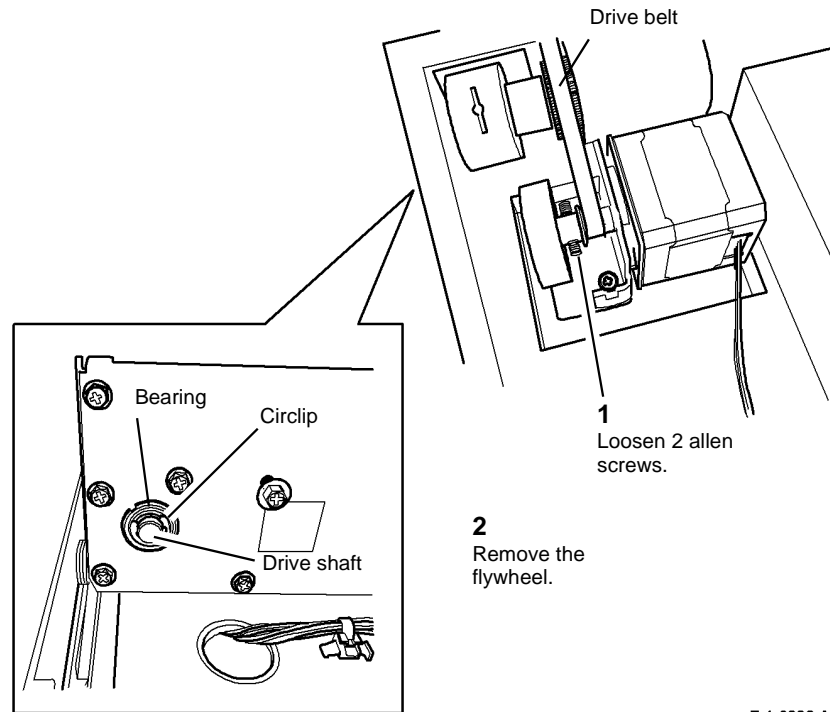

Figure 1 Flywheel removal and component location
2. **Figure 1.** Remove the scanner motor flywheel.